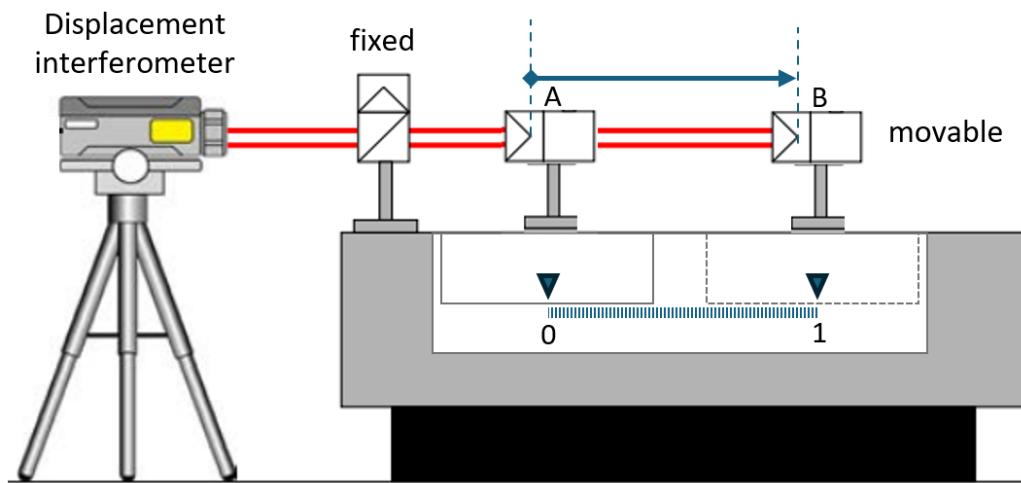

Figure Q3.
e) The He-Ne displacement interferometer in Figure Q3 (page 6) is replaced by a frequency scanning interferometer based on a tunable laser with a tuning range from 1260nm to 1360nm and a sweep rate of 100,000 scans per second (assume linear scans, sawtooth profile). Show that the frequency of the interference signal when the target distance is 1m from the datum will be greater than  $\sim 10$  GHz, requiring expensive data acquisition boards with high sampling rates. [5 marks]